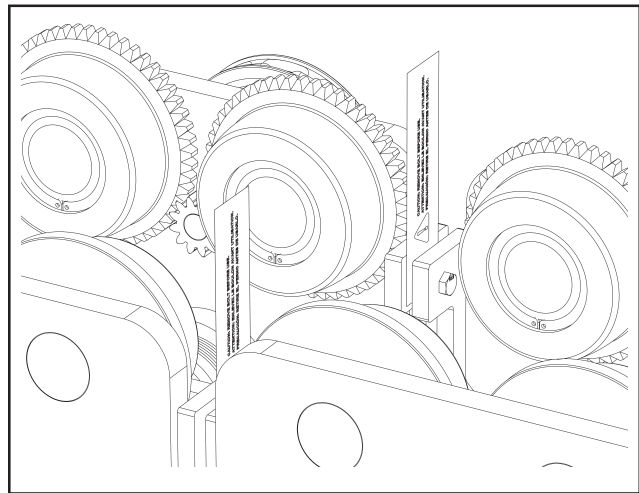

Figure 5 - Warning Tag
1. 15 and 20 tonne Integrated Trolley units are shipped from the manufacturer with both trolleys connected by a bolt through the bumper mounting holes. There is one bolt on each side. These bolts must be removed before operation. Failure to do so can affect wheel contact with beam and trolley performance on curved beams. See Figure 5 for details.